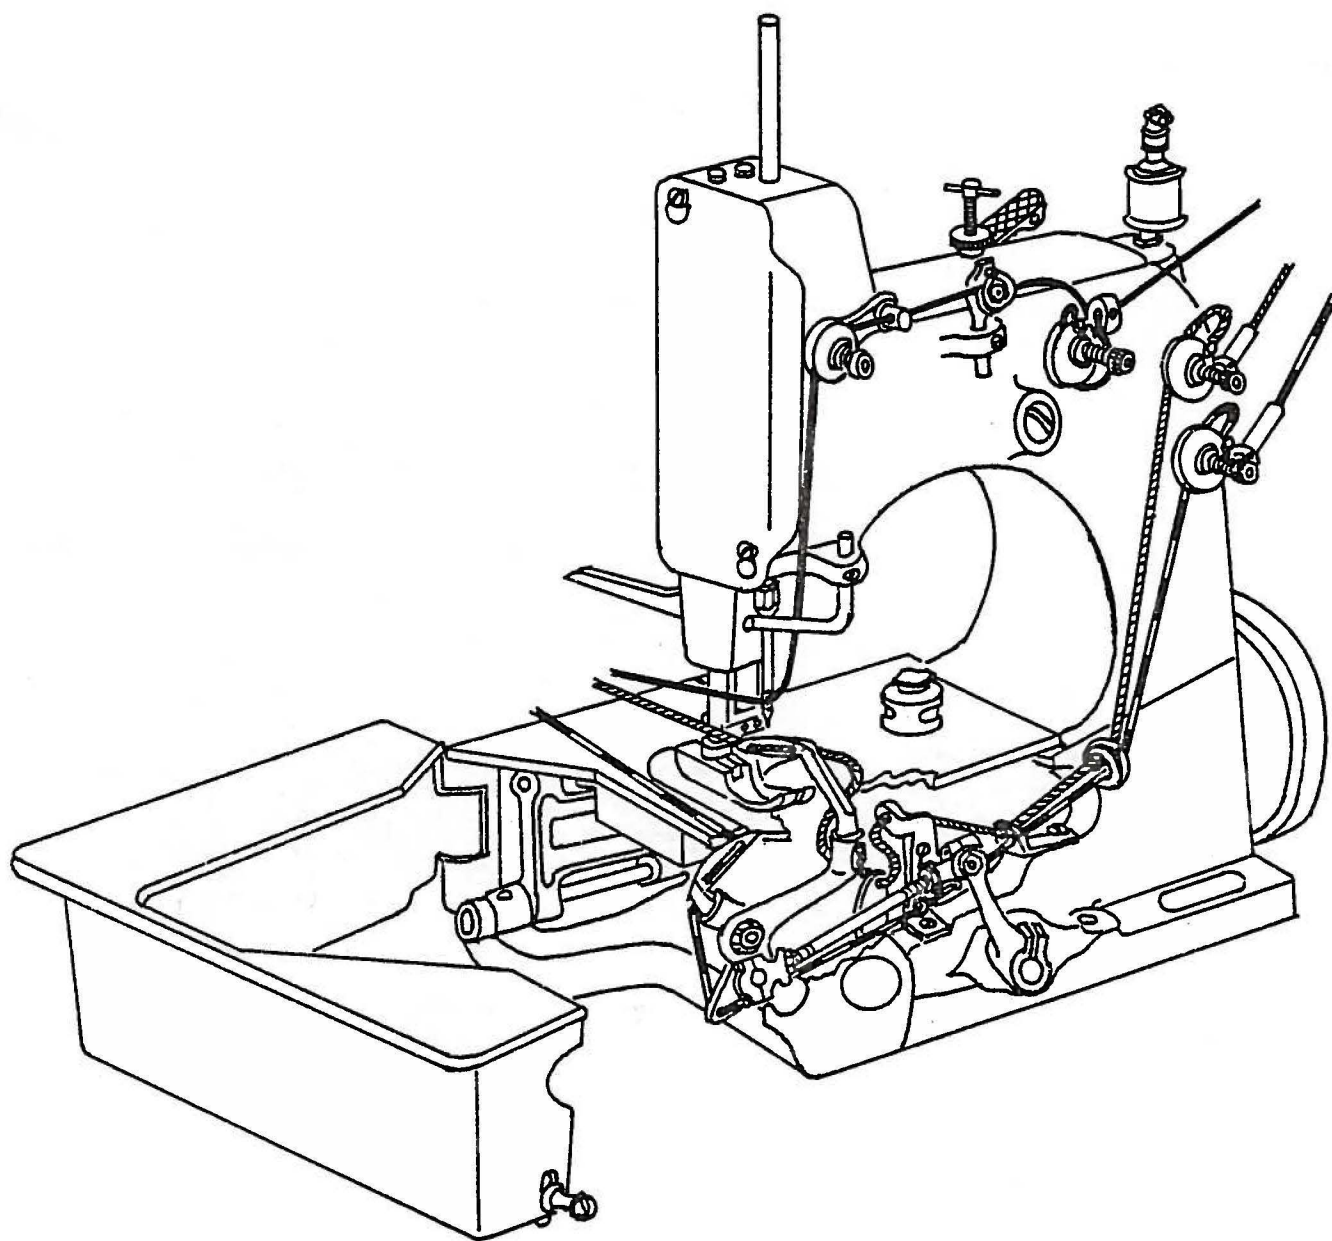

Fig. 2
14. Draw the thread into the machine and start operating on a piece of rug material. Threading diagram (Figure 2) is available.